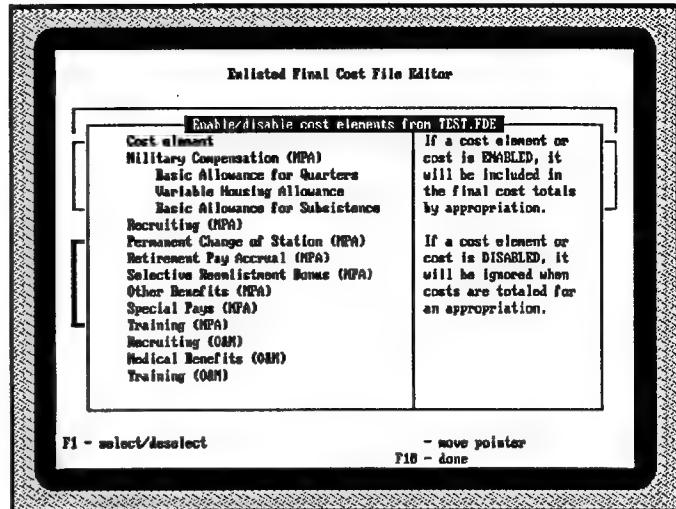

Figure 11.
2. You can select or deselect a cost element by choosing "Enable/Disable cost elements" and highlighting elements with the <F1> key. (Figure 11.) All cost elements are highlighted in a newly created cost file. When you disable a cost element, AFMCOS displays it in a different color than the highlighted enabled elements. Press <F10> when finished.